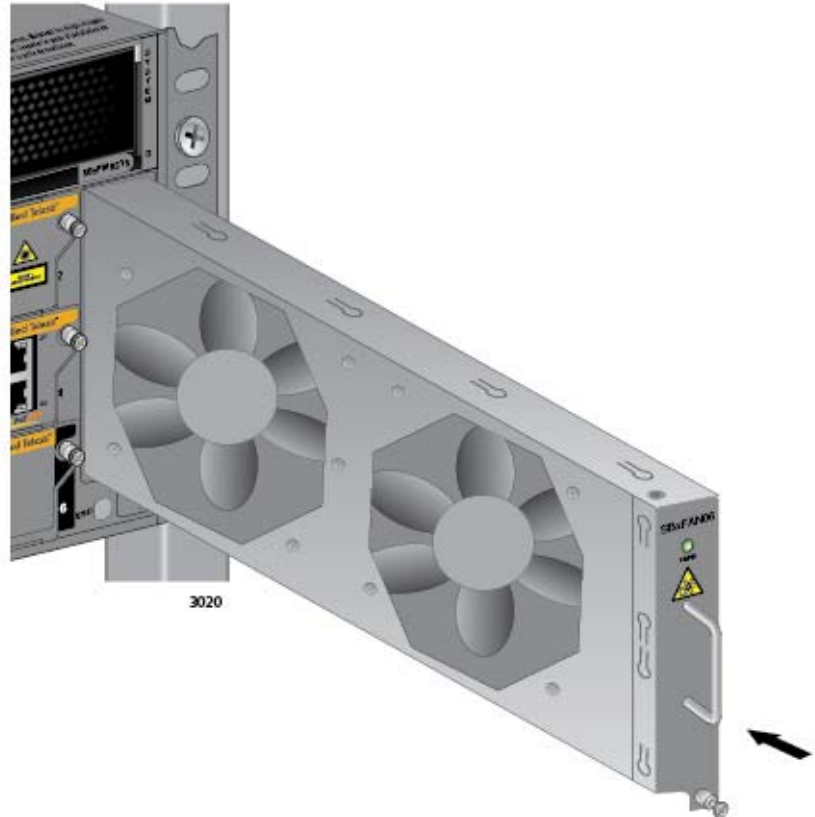

Figure 184. Installing a New AT-SBxFAN06 Fan Module
1. Orient the new module with the LED and module name on top and carefully slide the module into the slot in the chassis. Refer to Figure 184 on page 289.